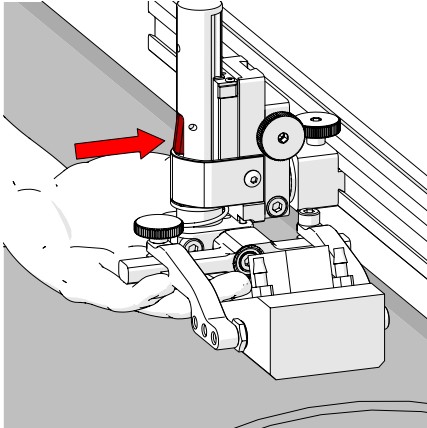
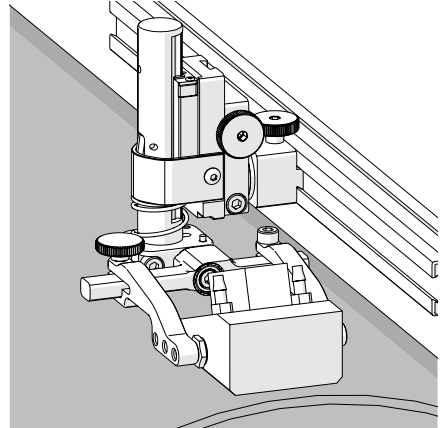

Fig. 113 - Press latch button
Fig. 114 - Lower toward scan surface
4. Lift the yoke slightly and press the latch button (Fig. 113), then slowly lower towards scanning surface to apply spring pressure to the wedge (Fig. 114).